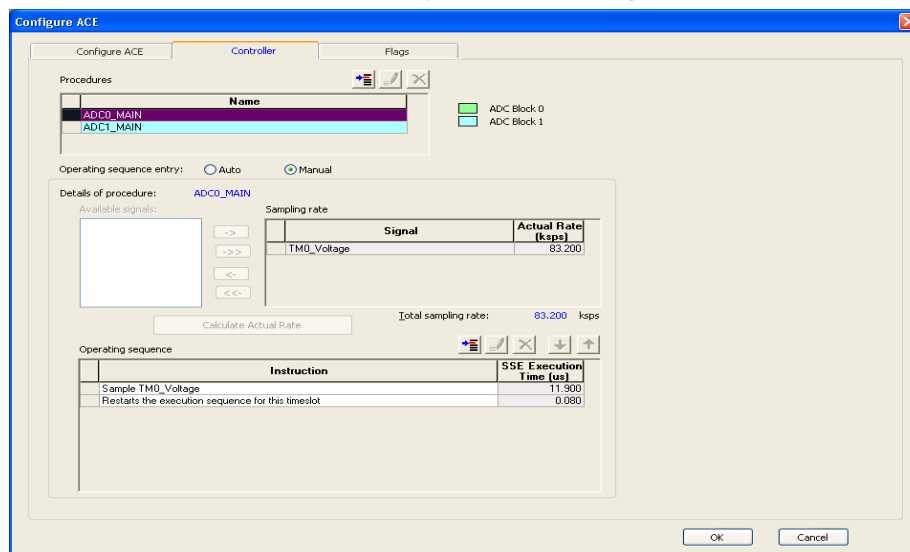

Figure 16 · MSS ACE Configuration: Controller Tab
13. The **Controller** tab window is displayed as shown in Figure 16 · :